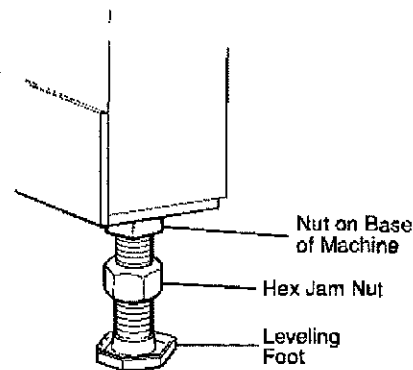

FIG. 2
2. The Grinder's four leveling feet (FIG. 2) are seated in countersunk holes in the pallet. Lift one end of the machine until both feet are out of their holes.